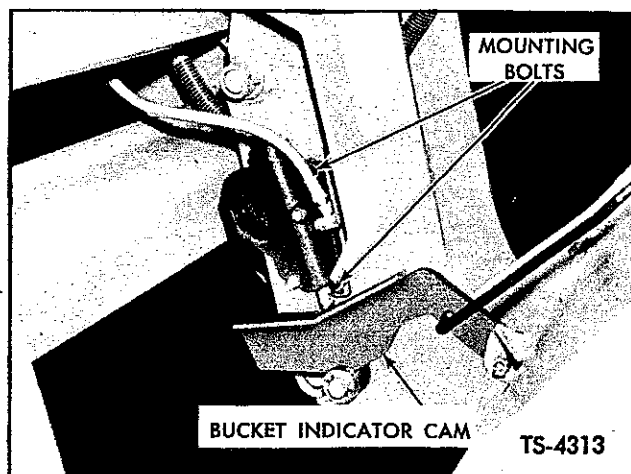

Fig. 18. Adjust Bucket Leveler Plunger Travel
1. Loosen master cylinder mounting bolts and slide cylinder to maximum height in adjustment slots. See Figure 18.